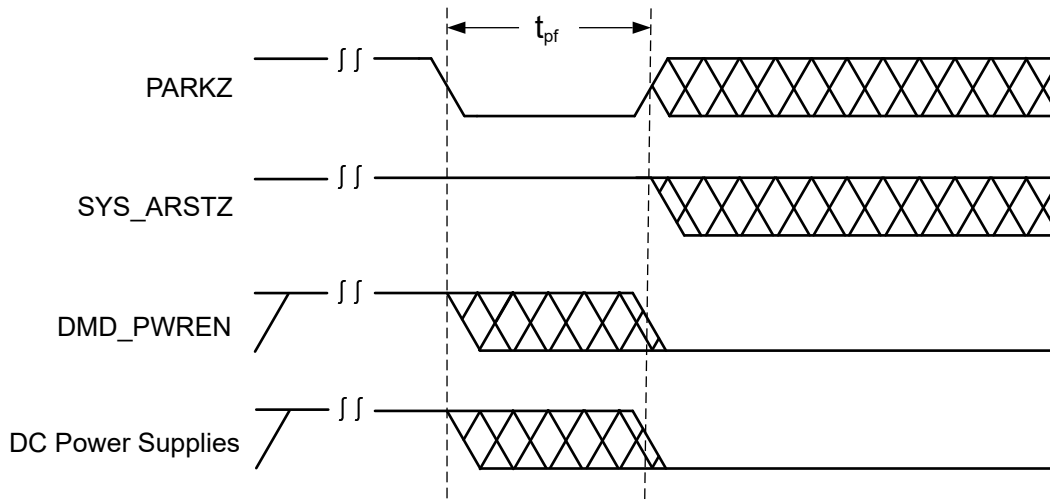

Figure 7-12. Removing Power After Asserting PARKZ
3. Following the deassertion of DMD_PWREN, power can be safely removed from the DLP chipset as shown in Figure 7-12.